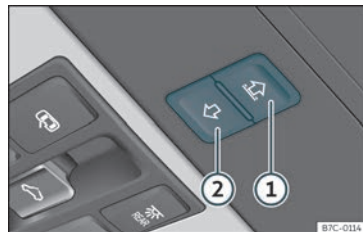

Fig. 90 On the interior roof lining: sunshade blind buttons.
Buttons >>> Fig. 90 ① and ② have two levels. The first level opens or closes the sun blind fully or partially.
- **Sun blind:** within approximately 5 seconds of having activated the anti-trap function, press button **>>> Fig. 90**  until the sun blind closes completely.